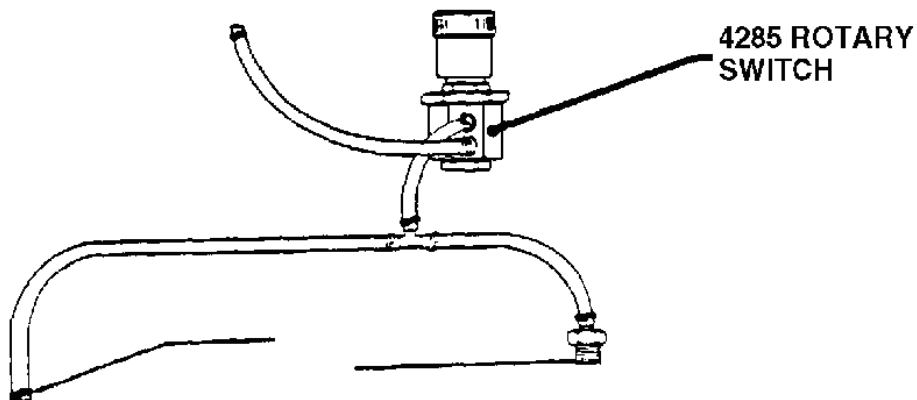

Figure 2-9. Rotary valve assembly and rotary switch.
- (1) Disconnect the unit from the source gas.
- (2) Attach the Babybird to a pedestal.
- (3) With a screwdriver, remove the screws that hold the case together.
- (4) Slide the front panel forward.
- (5) Locate the alarm assembly in the center of the unit.
- (6) With a crescent wrench, loosen and remove the nut holding the alarm assembly to the flow gauge bracket.
- (7) Carefully pull the alarm assembly out of the bracket.
- (8) Remove one hose at a time and place the new alarm assembly in its proper place. Attach all three hoses.
- (9) Reassemble in the reverse order.
b. **Remove and Replace the Rotary Switch (Part Number 4285) Rotary Valve Assembly (Controlled INTERMITTENT MANDATORY VENTILATION/Spontaneous Breathing).** Refer to figure 2-9. Follow these procedures to remove and replace the rotary switch.